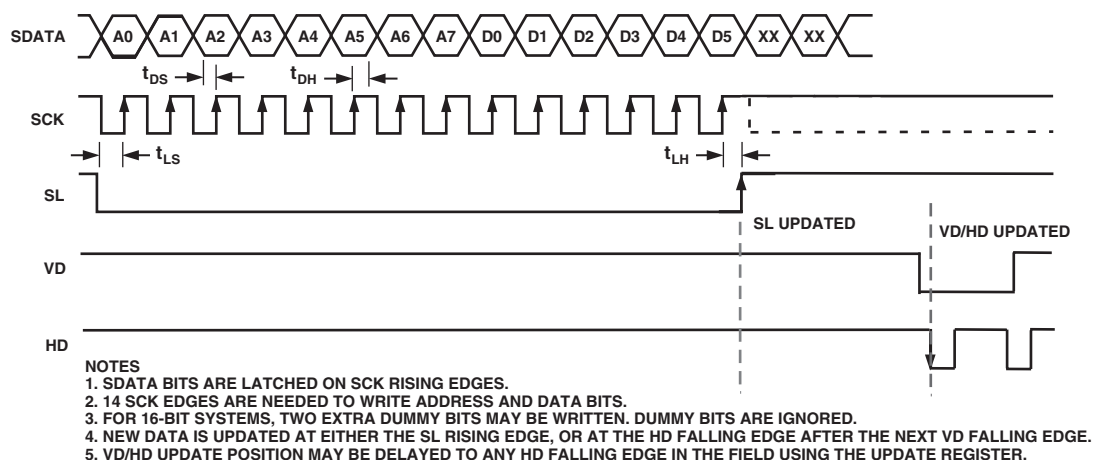

Figure 3a. Serial Write Operation
2. All registers are VD/HD updated as shown in Figure 3a, except for the above-listed registers that are SL updated.